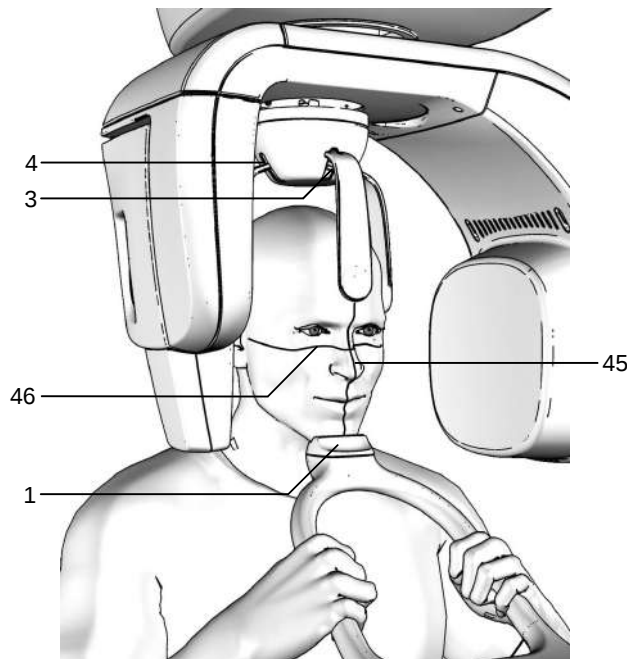

Figure 19 - SINUS positioning
4. Position the patient with the temple clasps (Figure 19) ensuring that the chin rests on the special support; ask the patient to place his hands on the front supports. Ensure that the patient rests his chin on the chin support for SINUS.